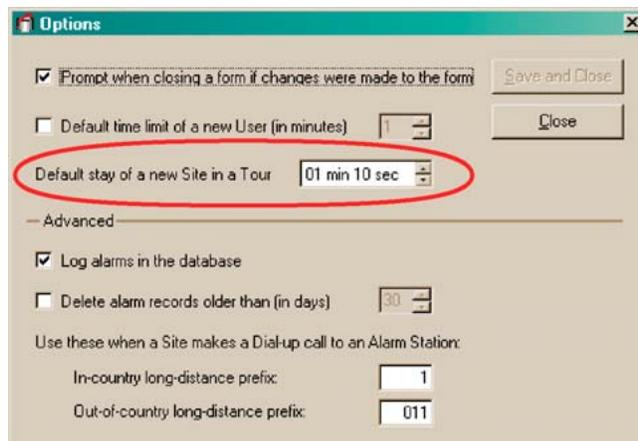

Fig. 8. Setting the default amount of time assigned to a unit when it is selected for a tour.
2. Adjust the minutes and/or seconds, as needed, in the “Default stay of a new Site in a Tour” option. See figure 8.